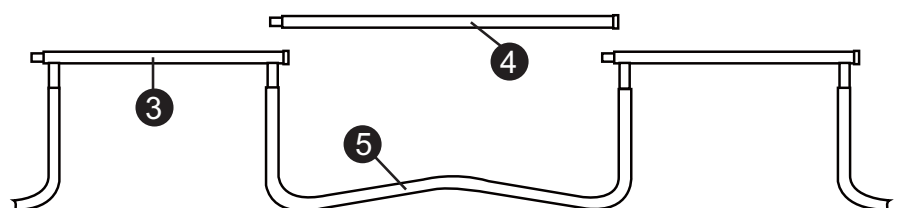

FIGURE 3
**B.** Install the Top Rail (#4) into the gaps between the Vertical Leg Extensions by inserting them into the slots as shown in FIGURE 3.